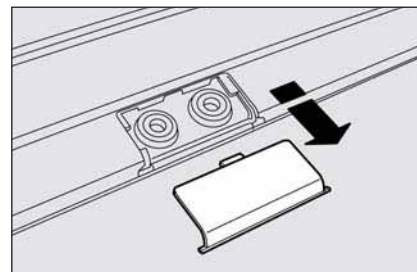

fig. 120
- for versions with sunroof: extract the tabs using the screwdriver provided in the kit to reach the fastening seats **fig. 120**;